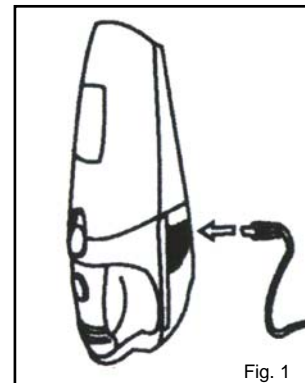

Fig. 1
**NOTE:** Peak performance may only be realized after the unit has been charged and discharged two (2) or three (3) times.
4. The charging indicator light will shine green to indicate that the vacuum cleaner being charged. (See Fig. 1)